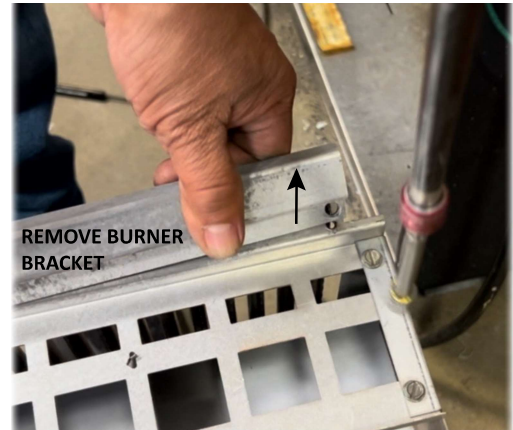

Figure 3. Remove Burner Bracket
10. Once the screws have been removed, detach the burner bracket from the burner tray (See **Figure 3**).